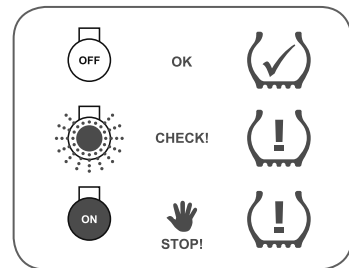

Fig. 14 - Indicator lamp functions
2. Affix the label in accordance with see ► Fig. 14 in the immediate vicinity of the indicator lamp.